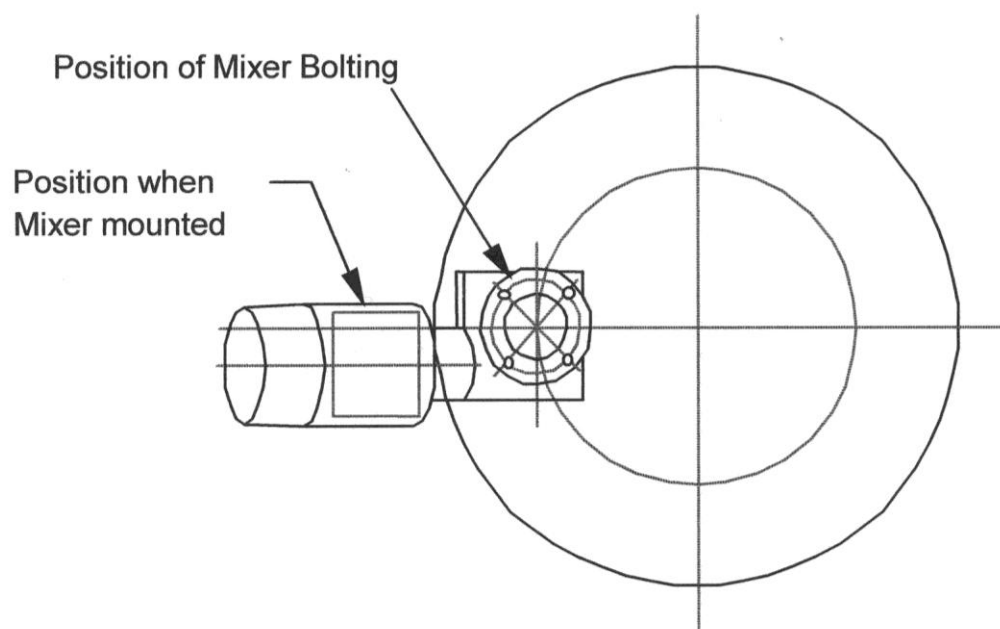

Figure A-2c Mixer position viewed from top of vessel
- (1d) Models MM32 and MM64D are bolted to mixer pad and are not designed for quick removal due to the size and weight of the drive unit. The normal orientation of the mounting bolts is off centre of the vessel centre lines (see Figure A-2c). This puts the axis of the mixer on the centre line of the vessel.